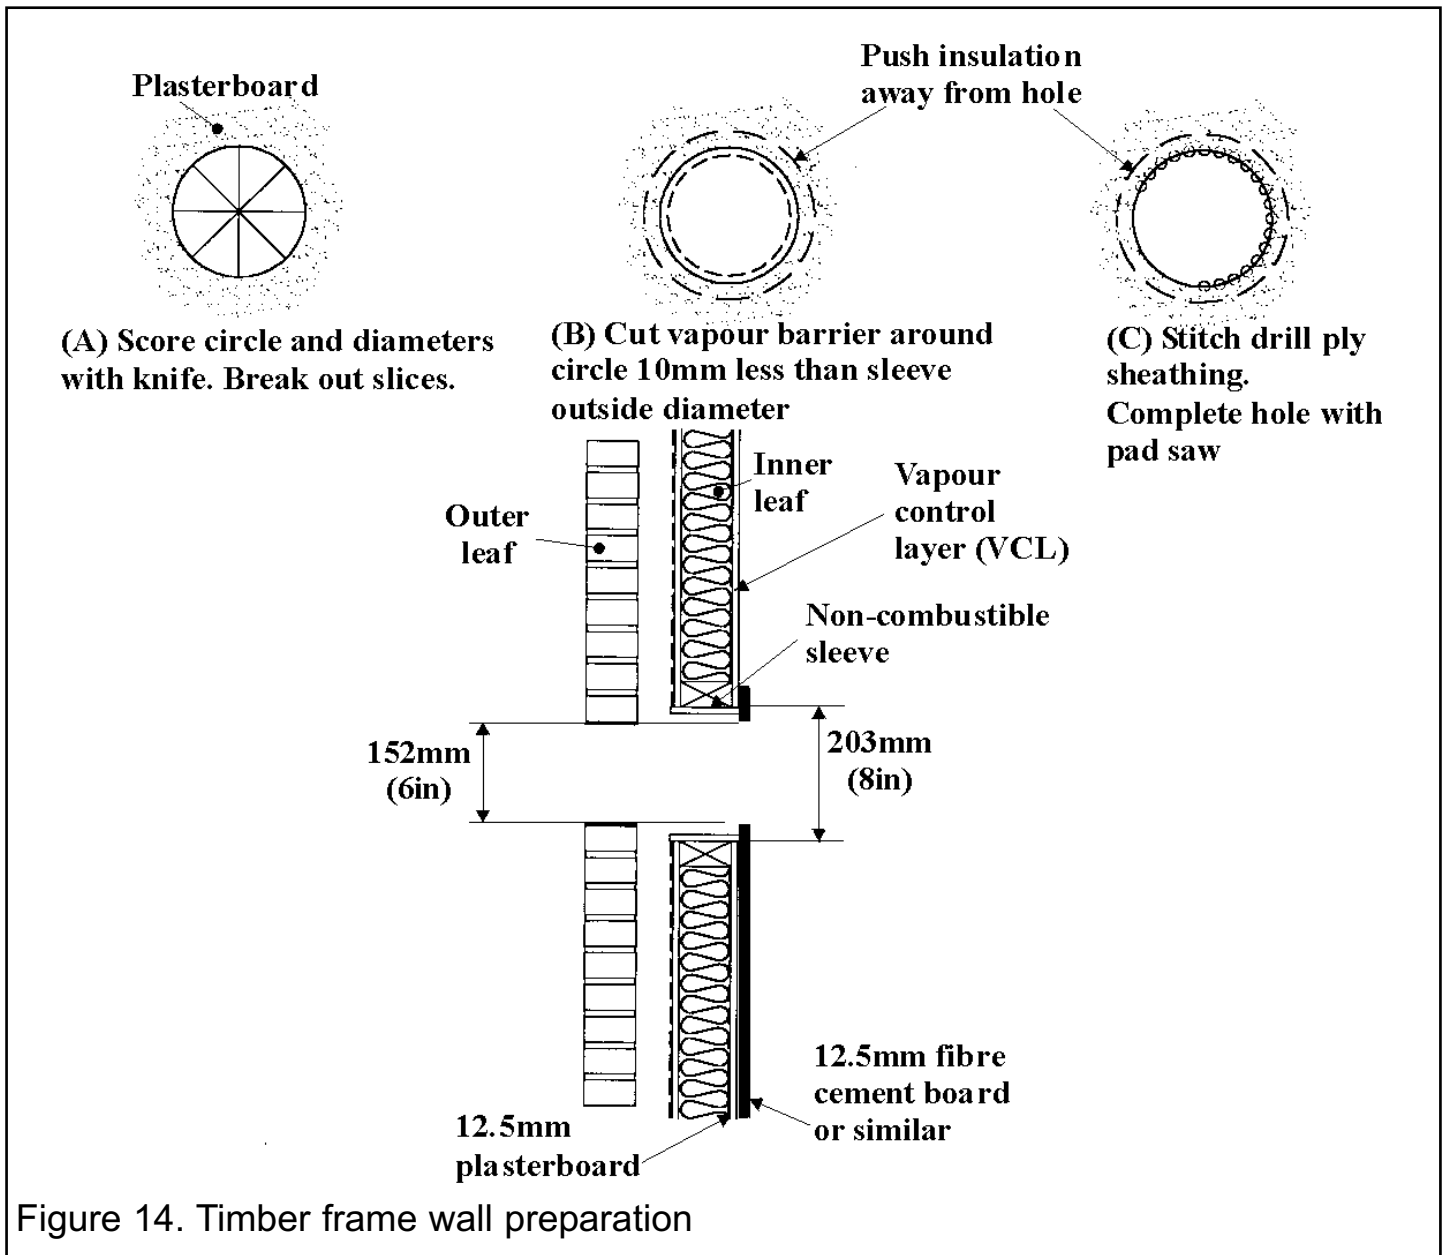

Figure 14. Timber frame wall preparation
- Since the flue will pass through combustible material in the inner leaf of the wall, a non-combustible sleeve 203mm (8 inch) diameter will be required round the flue (See figure 14).
vapour control layer (VCL), if possible, cut the hole approximately 10mm undersize so that the sleeve will be forced through the layer. A recommended technique for cutting the inner leaf is shown in figure 14.